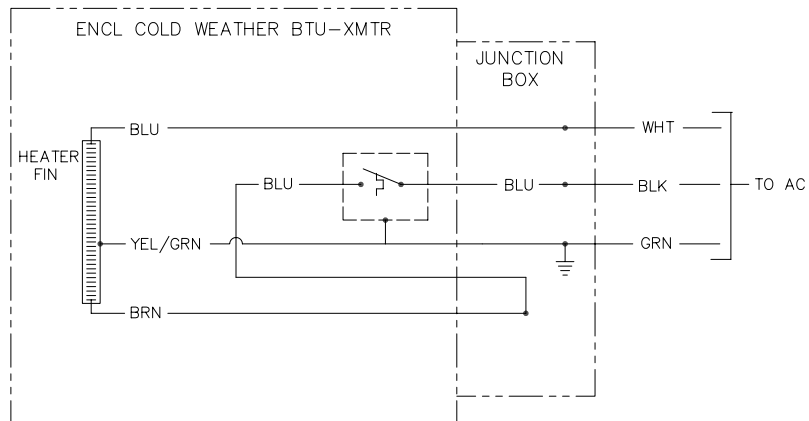

Figure 49 Electric Heater Option Wiring Instructions
- 1) Using the wiring instructions shown in Figure 49 and Manufacturers Instructions enclosed with Heater, make external connections.